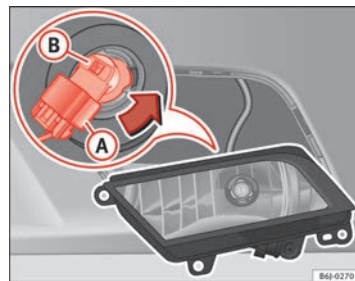

Fig. 159 Fog light
- Remove connector ⇒ Fig. 159 **A** from the bulb.
- Turn bulb holder ⇒ Fig. 159 **B** to the left and pull.